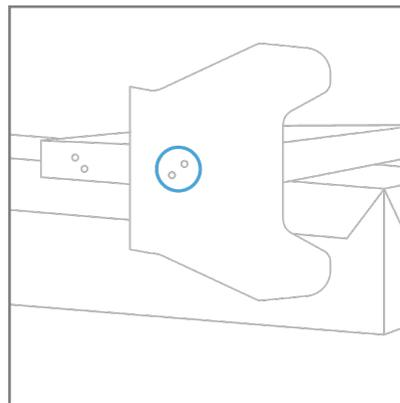

Figure 02.
Step 3: Use two of the provided 5/8" long flat head hex screws to securely attach the right baseplate to the vertical stand (Figure 02.).